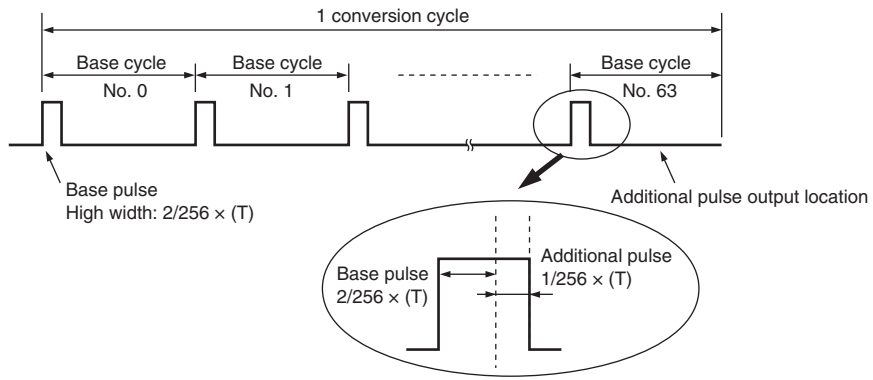

Figure 10.6 Output Waveform when DADR = H'0207 (OS = 1)
In this example, DADR = H'0207 (B'0000 0010 0000 0111). The output waveform is shown in figure 10.6. Since CFS = 1 and the value of the upper eight bits is B'0000 0010, the high width of the base pulse duty cycle is $2/256 \times (T)$.